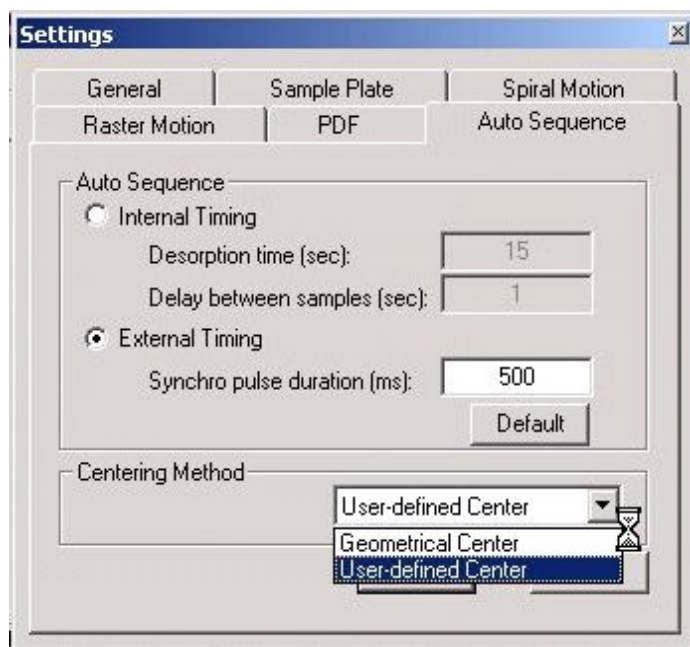

Fig. 7-24 Selection of sample Centering.
Different modes of AutoSequence are available (Fig. 7-24) and include: Geometrical Centering (Geometry) and User-defined Centering (Manual). The present modes are used to determine the center position of samples on a target plate.
5. **For the “Internal Timing” mode**, start “Continues” data acquisition/recording in Tune-plus program of Xcalibur package. Then click on the PLAY button in the *TARGET* software window to start AP/MALDI (PDF) operation. The data acquisition will start and continue during the time specified for the spot (“Desorption time” in Fig. 7-24). When the data acquisition from the first sample is done, the laser firing is stopped and the target moves to the next sample spot. The **current** sample is indicated by a blinking color. The process will be repeated until the last sample spot has been analyzed. Finish the data recording in Tune-plus program.